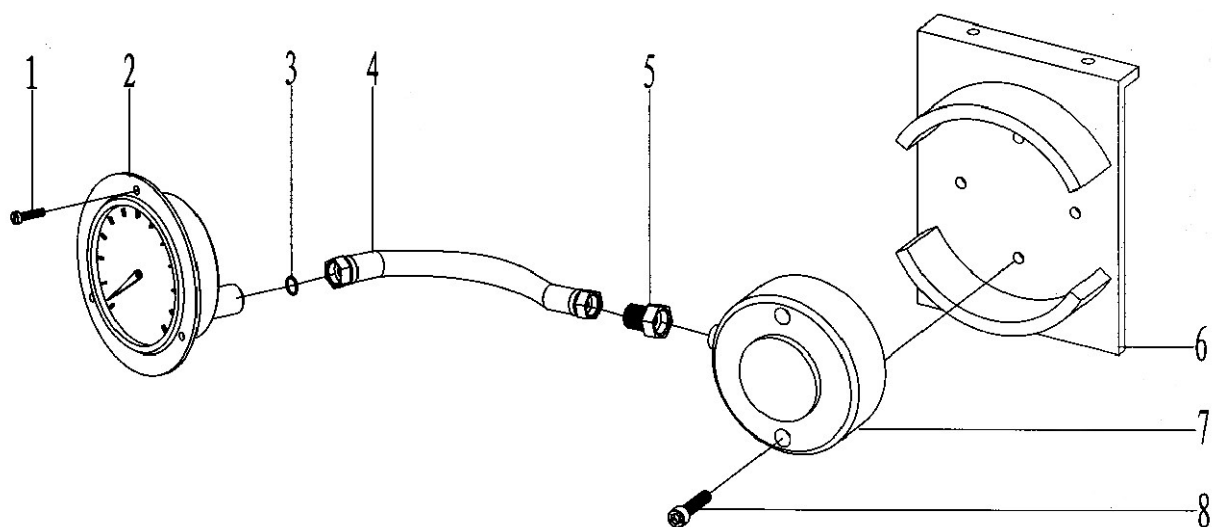

Fig 29
7.26. Torque testing assembly (Fig29, Table28)